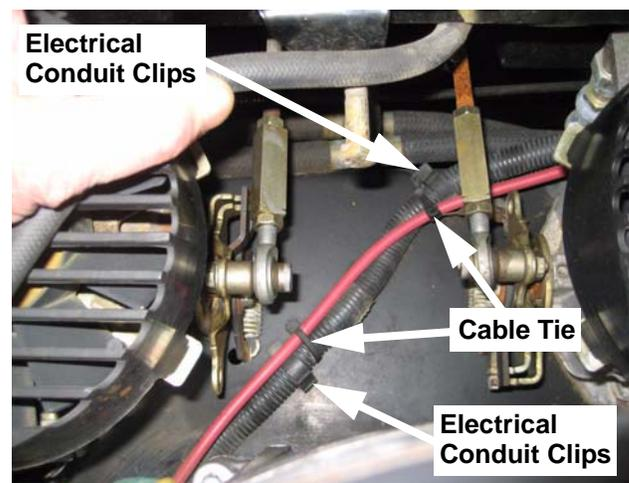

FIGURE 2
9. Use a minimum of 3 cable ties, part number 725-0157, to secure the red positive battery cable to the black conduit covered wire harness. See Figure 2.